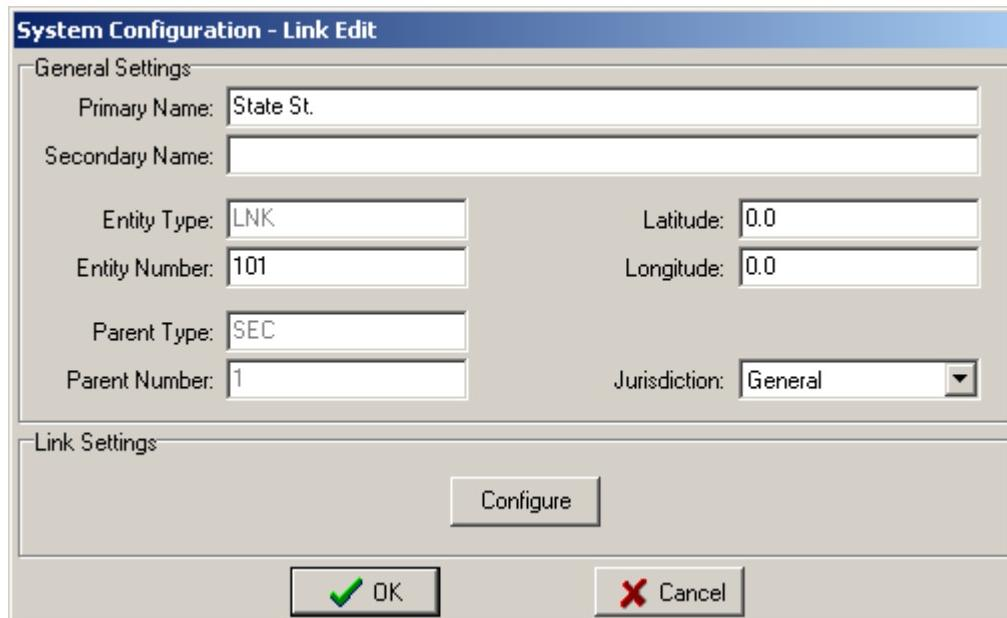

Figure 4-7: Defining a Link
2. Select ‘LNK’ from the Object Types pull down list. Figure 4-7 will then appear.